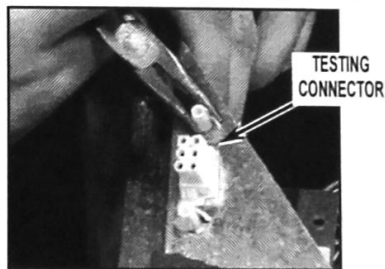

FIGURE 14
16. Remove testing connector (if applicable) by using pliers to squeeze the two wings and backing the connector through the switch plate assembly. Repeat this procedure for the opposite side of the connector. See Figure 14.